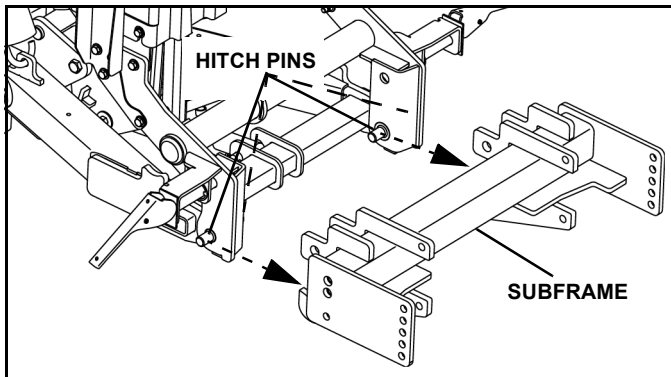

Figure 1-2
3. Set a-frame/tower assembly lower hitch pins into slots on truck subframe (See Figure 1-2).